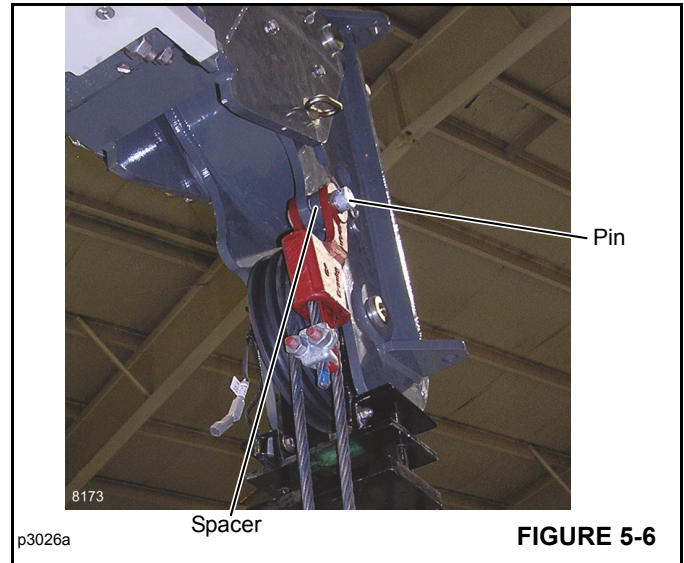

FIGURE 5-6
2. Remove the pin Figure 5-6 securing the rope wedge socket and spacer to the boom head.